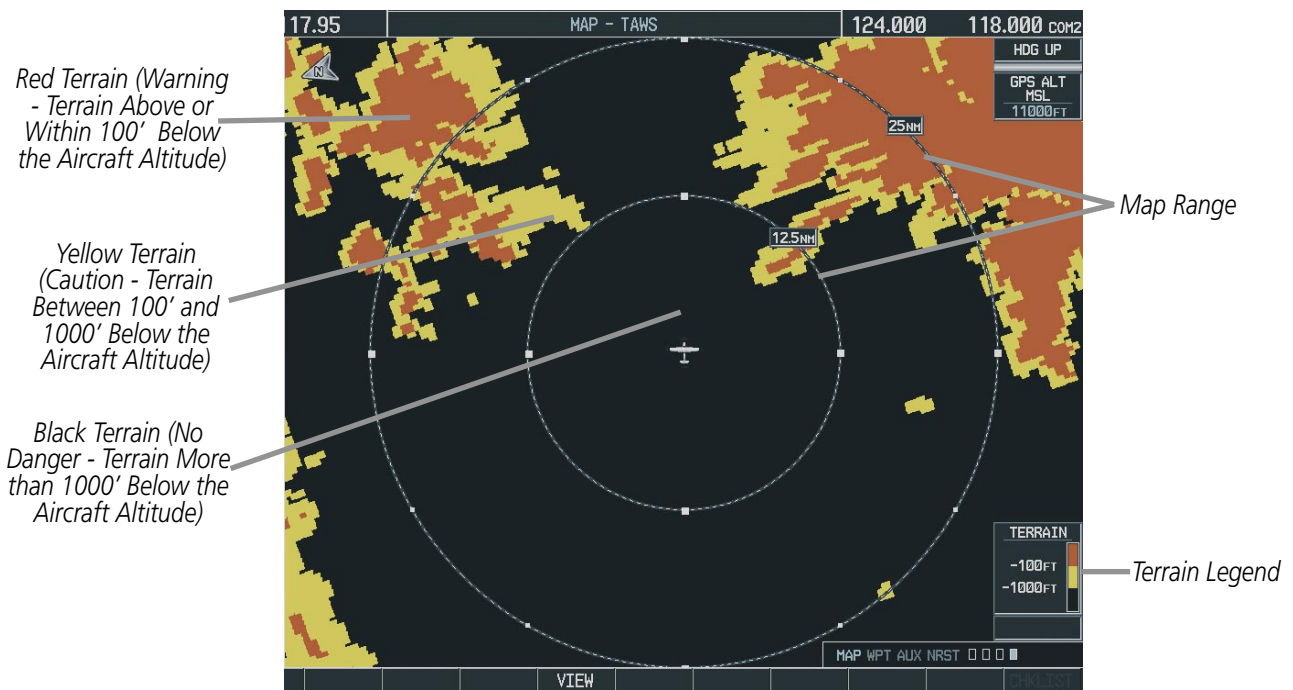

Figure 6-47 360° View on the TAWS Page
- 360° View—Displays surrounding terrain on all sides of aircraft (Figure 6-47).